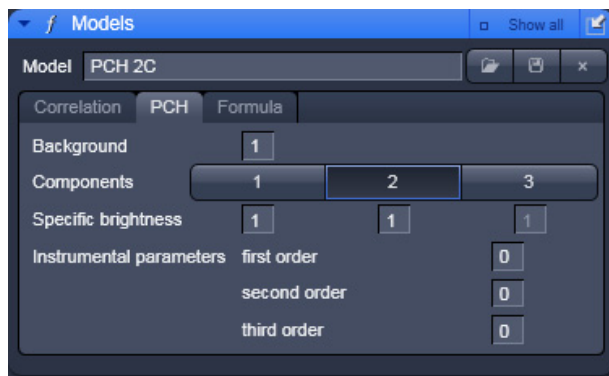

Fig. 9-69 Model panel, PCH tab
- Click on the **PCH** tab to open the PCH control panel (Fig. 9-69). Click on any other register to leave the panel.